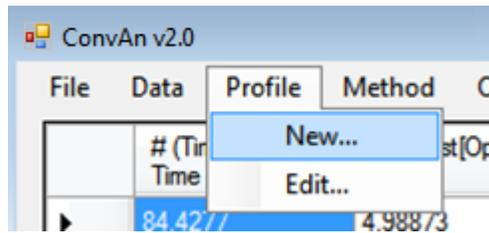

Figure 4. Lower level menu items of main menu item *Profile* in ConvAn v2.0.
The main menu item *Profile* consists of 2 lower level menu items (see **Figure 4**):
- by executing *Profile* → *New...* (see **Figure 4**),